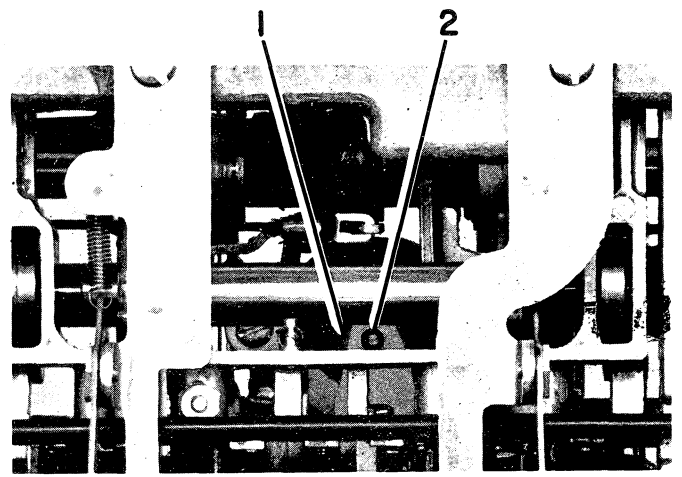

Figure 16. Lower Ball Socket and Tilt Ring Removal
8. Loosen the rotate pulley set screw (#1, Figure 16).
9. Use the butt end of a small spring hook as a follower to push out the lower ball socket (#2, Figure 16). **NOTE:** This prevents the wedge from being lost. When replacing the socket be sure the pin is pointing toward the front-left and right-rear corners.